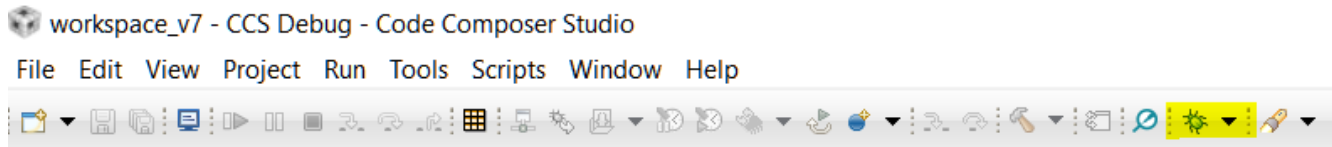

Figure 5-4. Code Composer "Debug" Button
10. **Modify the CCS "On Connect" Action:** There are two ways to launch the debug session from CCS. One way is to right click the desired target configuration from the previous step and select "Launch Selected Configuration". Once this is done the target CPU can be connected by right clicking on the CPU core(s) and select "Connect Target". The other way is to use the Debug Button (Figure 5-4), which not only launches the configuration, but also connects, loads the target program file into memory, and executes to "main". These settings can be modified but this is the default operation. The default actions can be modified by either right clicking on the .ccxml file being used or selecting "Debug Options" from the arrow dropdown next to the Debug button and changing the auto run and launch options in the Target sub-menu. During the troubleshooting phase of this document, it is recommended to use the former method of "Connect Target". This helps to isolate any issues that are not purely JTAG related, but caused by code execution or other system interactions. Once the system is verified to be stable for launching and connecting the target, use the Debug button to handle these steps.